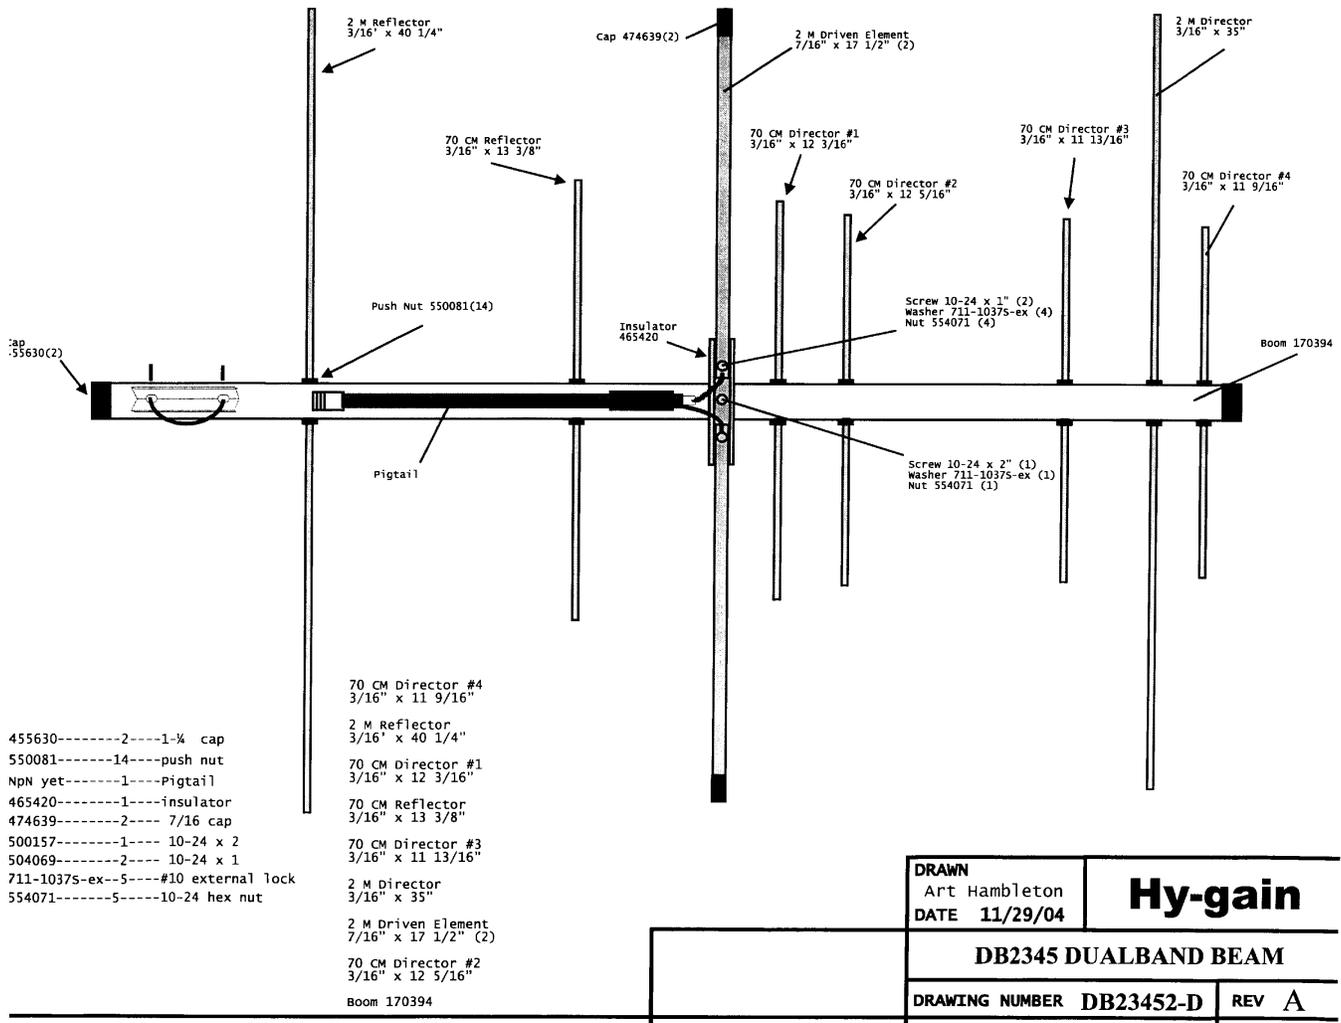

Figure 1 – DB2345 Drawing
Refer to Figure 1 during assembly. Assembly consists of mounting the 2-Meter driven element insulating assembly, attaching the pigtail, mounting the 70cm and 2-meter elements, and then mounting the antenna to the mast.
- 3) Referring to Figure 1, assemble the 2-meter driven element insulating bracket to the hole in the boom. Use a 10-24 x 2" screw, nut, and lock washer.
- 6) Insert a push-nut on the 70 cm Reflector and slide it so that it is spaced exactly 6-1/16" from one end. Insert the 70 cm Reflector in the location shown in Figure 1, and slide on a second push-nut to hold it firmly in place.
- 7) Insert a push-nut on the 70 cm Director #1 and slide it so that it is spaced exactly 5-1/2" from one end. Insert the 70 cm Director #1 in the location shown in Figure 1, and slide on a second push-nut to hold it firmly in place.
- 8) Insert a push-nut on the 70 cm Director #2 and slide it so that it is spaced exactly 5-9/16" from one end. Insert the 70 cm Director #2 in the location shown in Figure 1, and slide on a second push-nut to hold it firmly in place.
- 9) Insert a push-nut on the 70 cm Director #3 and slide it so that it is spaced exactly 5-1/4" from one end. Insert the 70 cm Director #3 in the location shown in Figure 1, and slide on a second push-nut to hold it firmly in place.
- 10) Insert a push-nut on the 70 cm Director #4 and slide it so that it is spaced exactly 5-1/8" from one end. Insert the 70 cm Director #4 in the location shown in Figure 1, and slide on a second push-nut to hold it firmly in place.
- 11) Insert a push-nut on the 2-meter Reflector and slide it so that it is spaced exactly 19.5" from one end. Insert the 2-meter reflector in the location shown in Figure 1, and slide on a second push-nut to hold it firmly in place.
- 12) Insert a push-nut on the 2-meter Director and slide it so that it is spaced exactly 16-7/8" from one end. Insert the 2-meter Director in the location shown in Figure 1, and slide on a second push-nut to hold it firmly in place.